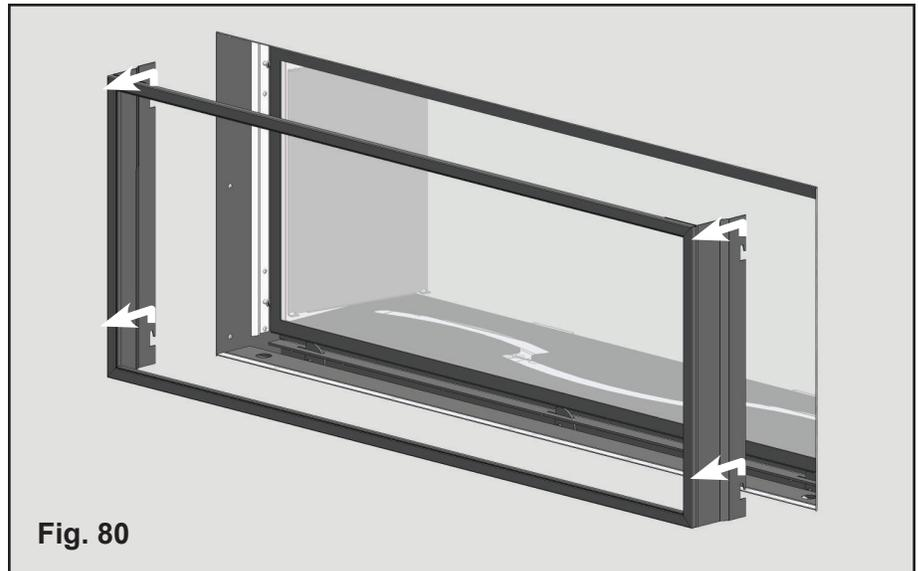

Fig. 80
2. Lift the safety screen up so the hooks are clear of the round spacers, then pull the screen straight out. (**Fig. 80**)
2. Remove the safety screen as shown in (**Fig. 80**)